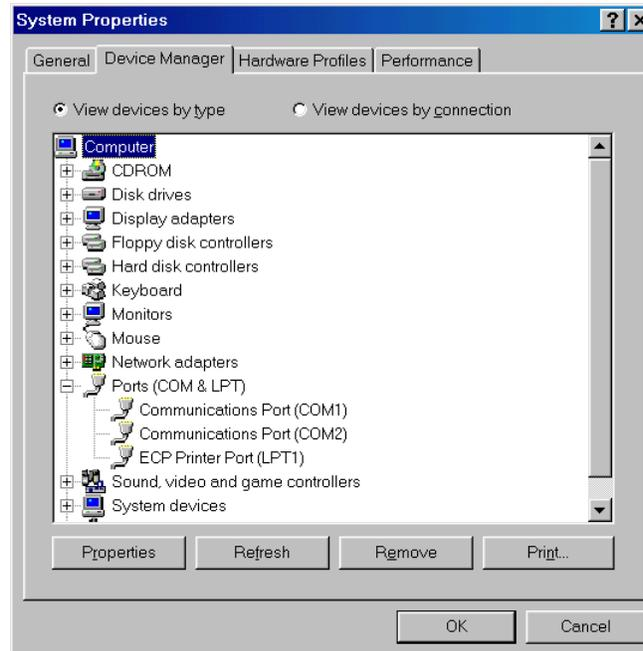

Figure C-6: Device Manager tab of System Properties dialog box
- 5 From the Ports list, select the port, such as COM1 or COM2 (Figure C-6).